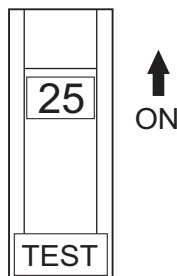

Figure 21. AC Circuit Breaker (ON)
9. Place AC circuit breaker (Figure 21) in the **ON** position .